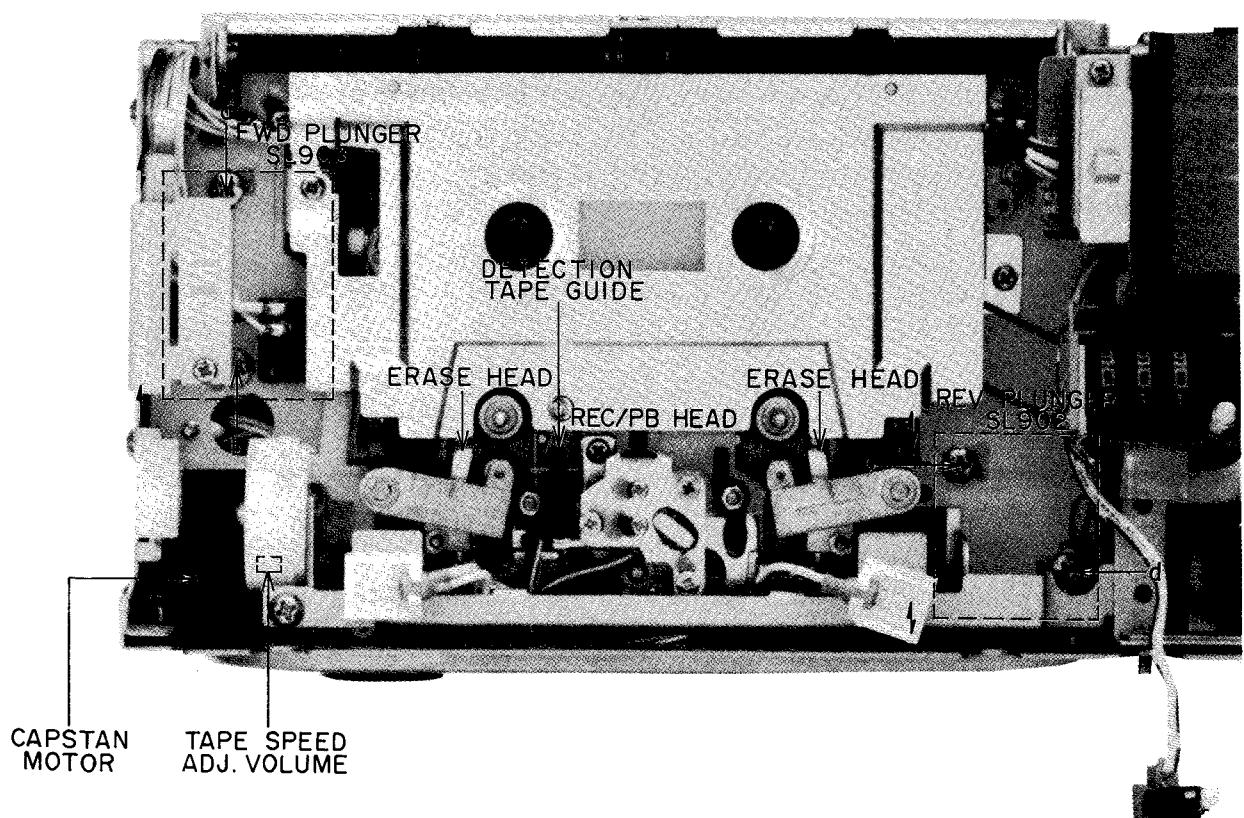

Fig. 18
- 1) Forward Plunger Adjustment (Refer to Figs. 18, 20)
- 3) Reverse Plunger Adjustment (Refer to Figs. 18, 20)
5. TAPE SPEED ADJUSTMENT (Refer to Fig. 18)